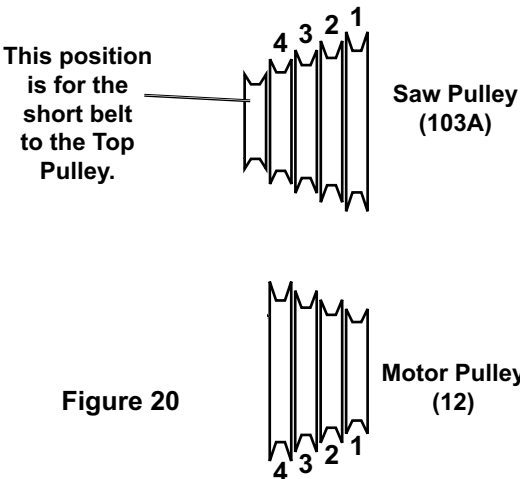

Figure 20
5. Install the belts later. See Figure 20 in "Belt Installation" for details.
- Using the chart "Pulley Speed Settings" to the right, choose which speed you would like the Saw Blade (36A) to operate at initially. Slide Long Belt (102A) onto the desired Motor Pulley (12) position. Then slide the Belt up over the Saw Pulley (103A) in the same numbered position. See Figure 20.